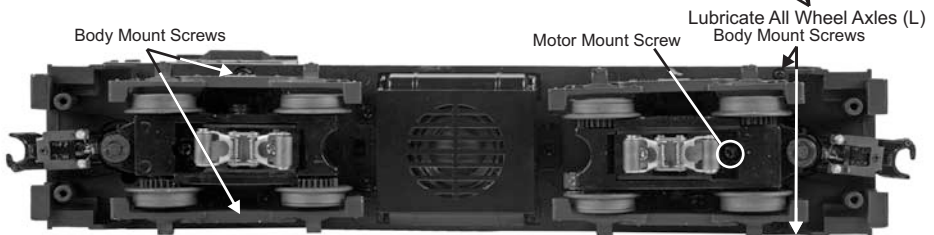

Figure 5: Body Mount Screws
1. To access the gear box, remove the cab from the chassis by unscrewing the body mount screws as seen in fig. 5 and lifting the cab from the chassis.
2. Once the cab is removed, remove the trucks by unscrewing the black Phillips motor mount screw located on the underside of the drive trucks (fig. 5).